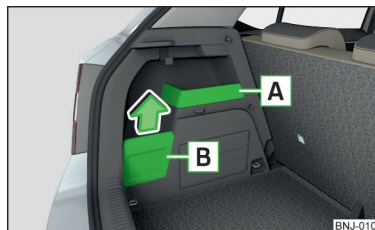

Fig. 85
- Place the item of luggage suspended from a hook, if possible, in the storage compartment **B** » Fig. 85 on page 86, otherwise there is a risk of damaging the storage compartment cover.
- If an item of luggage weighing more than 2.5 kg is suspended on the hook, then we recommend removing the storage compartment cover **B** » Fig. 85 on page 86, otherwise there is a risk of damaging the storage compartment cover.
Storage compartments » Fig. 85
➤ Remove the cover of the storage compartment **B** in the direction of the arrow » Fig. 85.
The removable storage compartment **A** » Fig. 85 is suitable for stowing small objects weighing up to 1.5 kg in total.